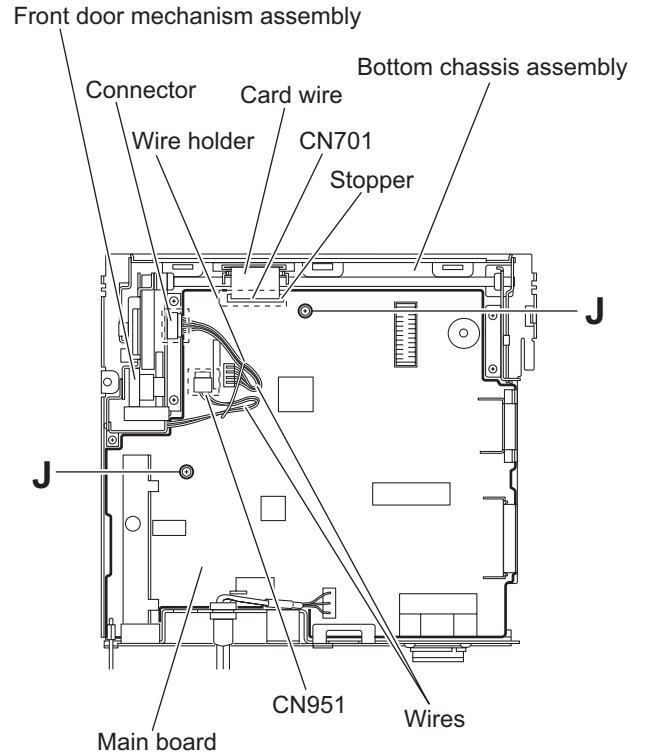

Fig.12
- (2) From the top side of the bottom chassis assembly, remove the two screws **J** attaching the main board to the bottom chassis assembly. (See Fig.12.)
- (3) Release the stopper of the connector CN701 on the main board in an upward direction, disconnect the card wire from the connector CN701. (See Fig.12.)
- (4) Disconnect the wire from the connector of the front door mechanism assembly. (See Fig.12.)
- (5) Disconnect the wire from the connector CN951 on the main board. (See Fig.12.)